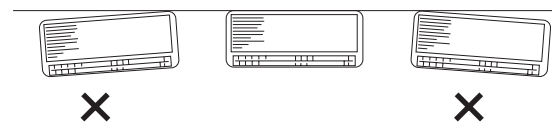

Fig. 3-26
- (2) Double-check with a ruler or level gauge that the panel is level. This is important to install the unit properly. (Fig. 3-26)
- (3) Make sure the panel is flush against the wall. Any space between the wall and unit will cause noise and vibration.